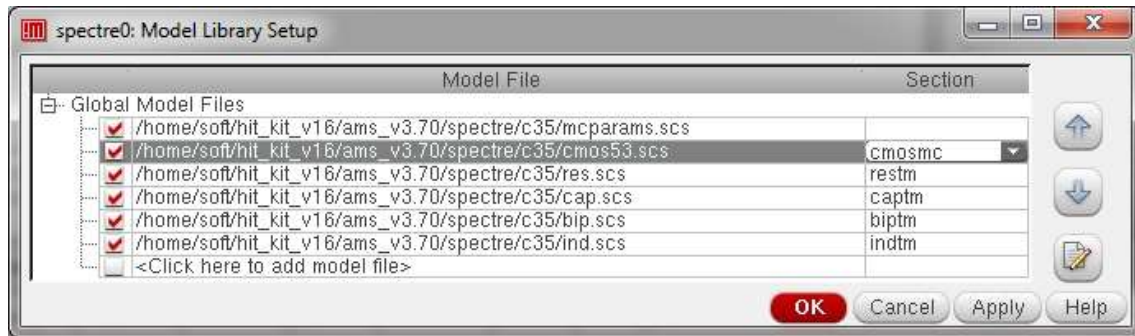

Fig. 11: Model Library Setup window
- b. Observe Fig. 11, select the line corresponding to the CMOS transistor models, change section to “cmosmc”, click “Change” click “OK”